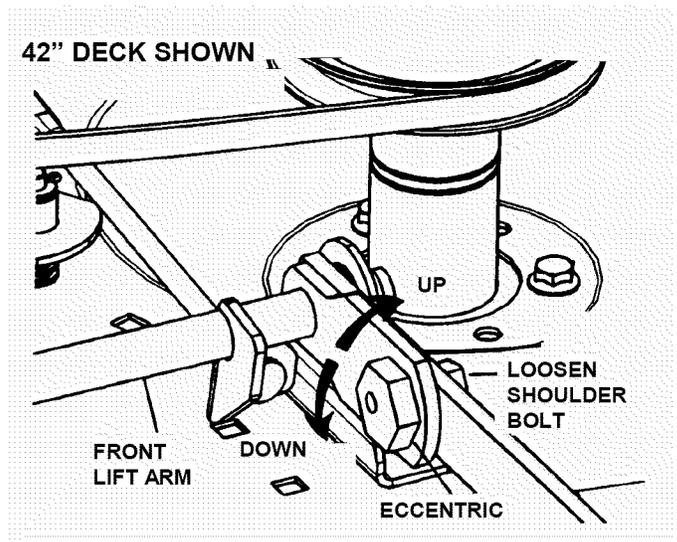

FIGURE 4.7
- g. Turn eccentric "UP" or "DOWN" as required until blade tips are within 1/8" of the same distance from the floor. See Figure 4.7.